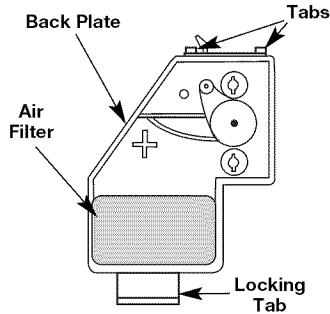

Fig. 30
7. Reinstall the air filter cover. Position the slots on the top of the air filter cover onto the tabs at the top of the back plate (Fig. 30).